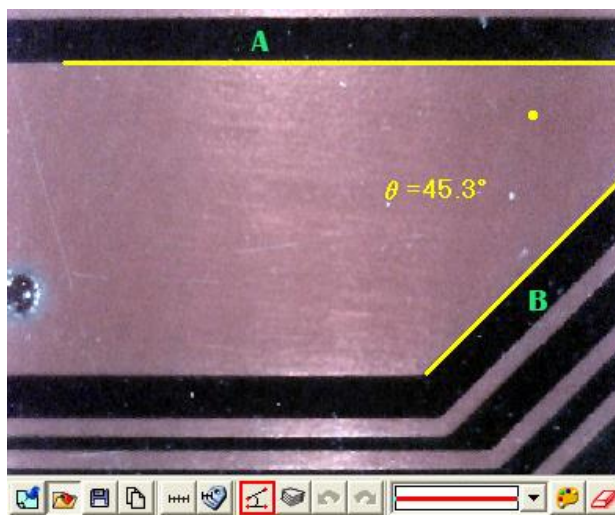

Fig 5-76 4 Points Chamfer
(13) 4 Points Angle: Use  to measure an angle but only see 2 unparallel lines shown on the object. See Fig 5-76, to draw a 1st line from the object (see line A), and to draw the other unparallel line (see line B), the angle can be automatically calculated. See Fig 5-76. There is a small dot show 45.3°.